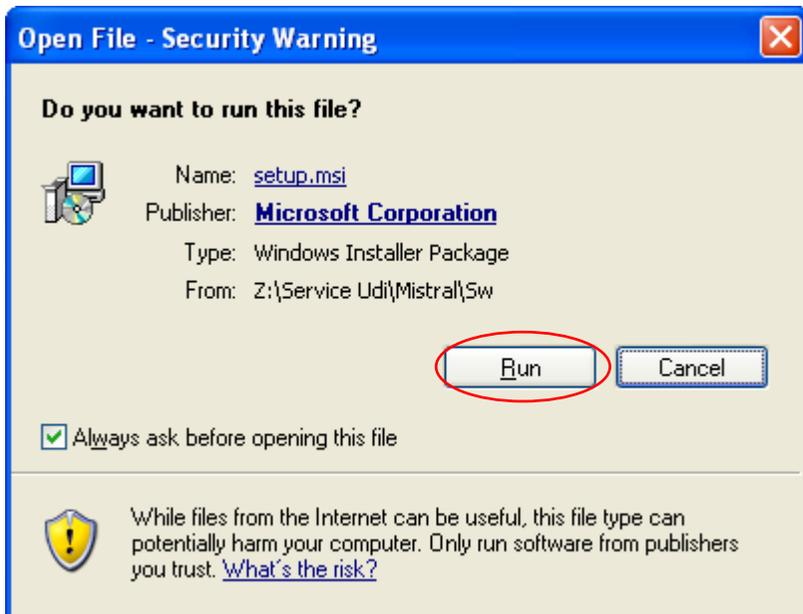

Figure 91:
5. Double Click on the exe. file. The following screen will appear. Select 'Run' (Figure 91).